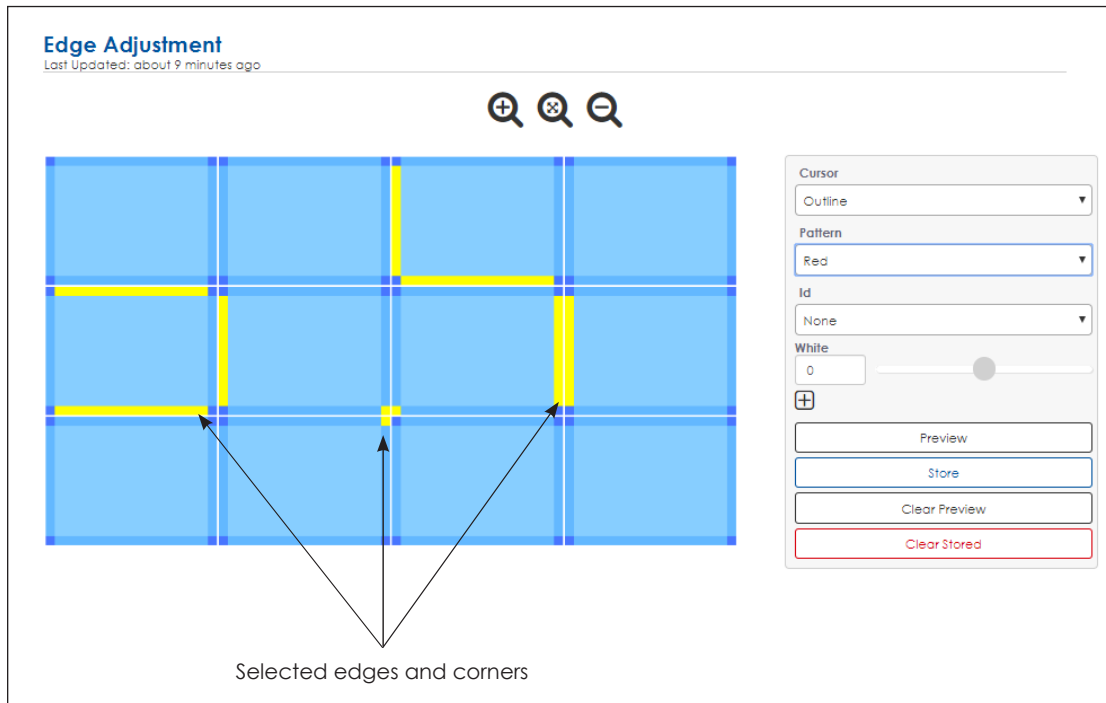

Figure 67: Selected Seams and Corners
- Click and drag the cursor across the whole graphic to select all seams and corners at once. Select individual seams and corners or groups of seams and corners for adjustment by highlighting them with the cursor. Refer to **Figure 67**.